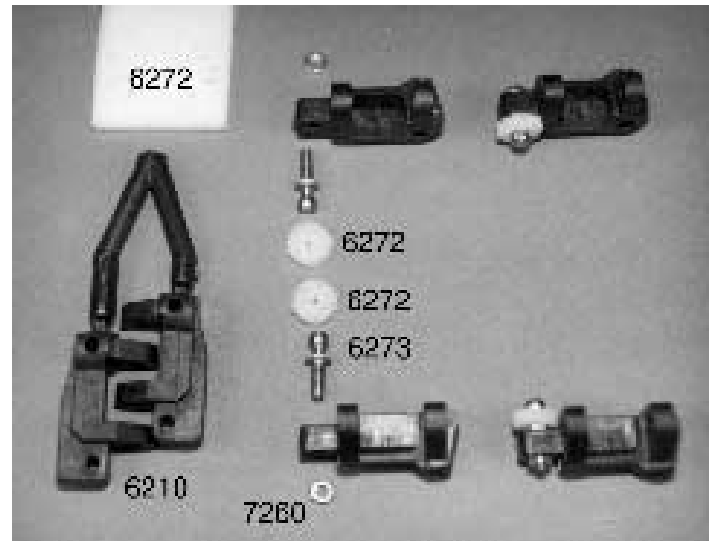

Fig. 2
□ **Fig. 2** (1) Find and remove bag #6-14. Now remove two #6273 long ball ends and two #7260 4-40 small thin plain nuts. (2) In the same bag you will find a thin flat piece of white foam with several donut shaped parts cut into the foam. These are our new #6272 foam ball end dust covers. We will be installing one of these over each ball end after it has been installed. (3) Now open bag #7-1 and remove the #6210 30° caster front carrier blocks. The carrier blocks are connected by a small molded runner which you will need to remove with your X-acto© knife. Be sure to remove all of the runner. (4) Screw one of the ball ends into each carrier block as shown (5) and then thread on the plain nuts. **NOTE: A 3/16\" nut driver (#SP-86) will make installing the steel ball ends and small 4-40 nuts easier.** (6) Now install one of the foam ball end dust covers over each ball.